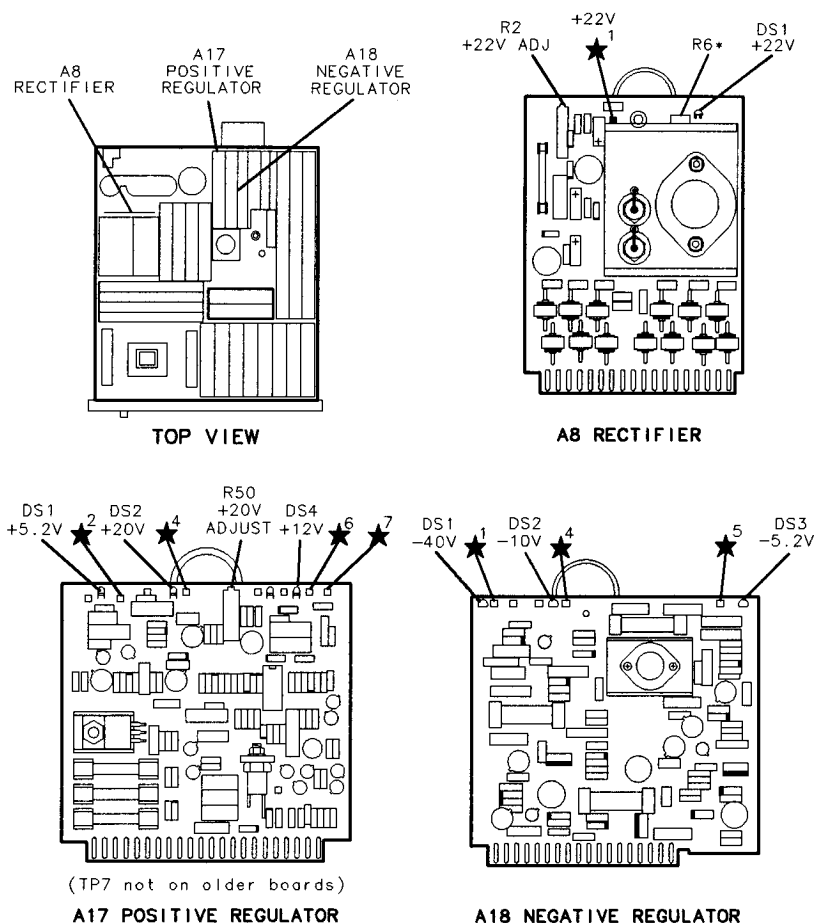

Figure 3-4. Location of RF Section Low-Voltage Adjustments
11. With the LINE switch still ON, the RF Section's +22 V indicator A8DS1 (yellow LED) should be lit. See Figure 3-4.
Note If A8R2 +22V ADJ does not provide sufficient adjustment range, select a new value for factory-select component A8R6. An increase in the value of A8R6 decreases the voltage at A8TP1. Conversely, a decrease in the value of A8R6 increases the voltage at A8TP1. Refer to Table 3-3 for the acceptable range of values and corresponding HP part numbers for A8R6, and to Figure 3-4 for the location of A8R6.